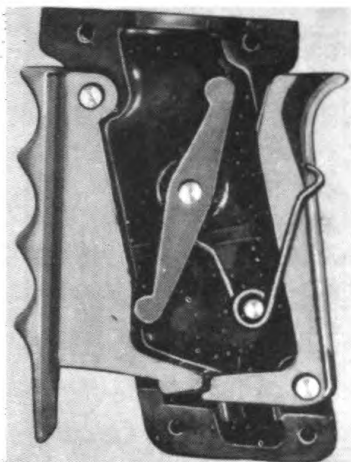

Fig 48. Location of parts in right valve grip before covering them with left valve grip.
(2) To disassemble valve grip, remove screws and lock washers from the grip. Lift off the left valve grip, exposing contents of grip. Lift out the following parts: valve-grip spring, rocker arm, grip safety, and valve lever.
c. Installing valve grip. (1) Place grip safety, valve lever, and rocker arm in position in right valve grip. (Fig 48) Be sure the shorter end of rocker arm is at the top. Place grip spring over spring pin. Slip short end of grip spring in groove of rocker arm. Place long end of grip spring on outside of grip safety.